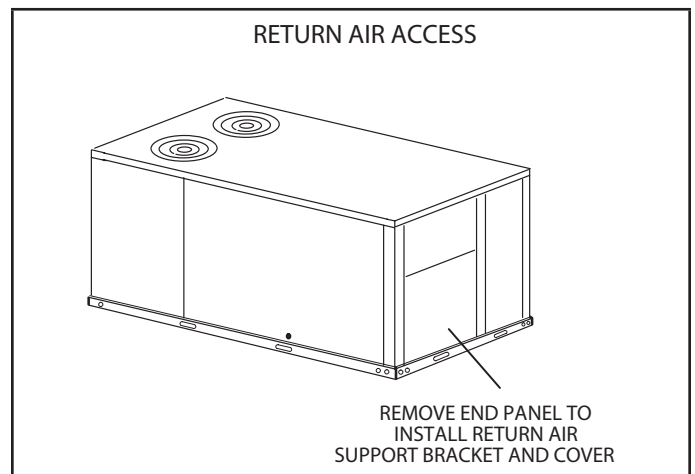
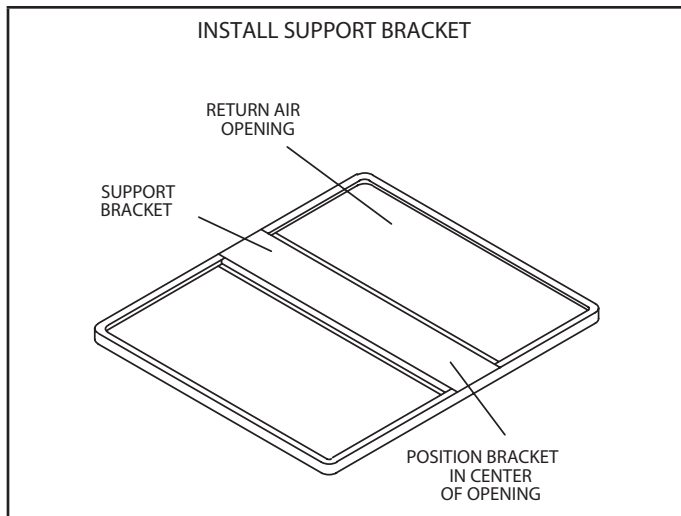

FIGURE 5
FIGURE 6
- 1 - Remove the end panel and install the return air support bracket. See FIGURE 5 and FIGURE 6. Insert one end of panel onto return air opening crown and rotate to fit the other end in opening.